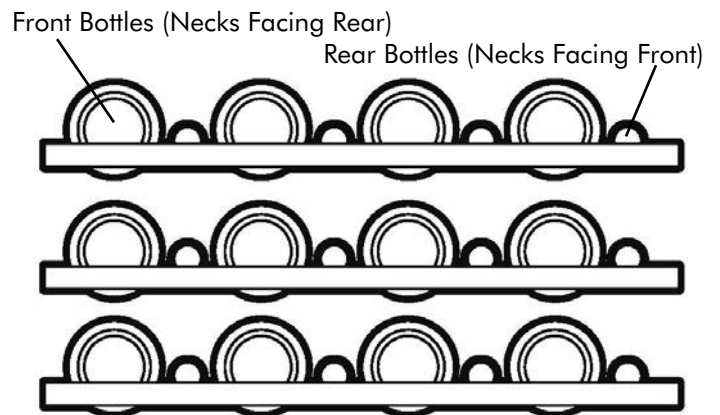

Figure 8
The six (6) roll-out shelves each hold eight (8) bottles. See Figure 8 for typical wine bottle spacing. Tall bottles should not be loaded on the bottom rack because they may prevent the door from closing.